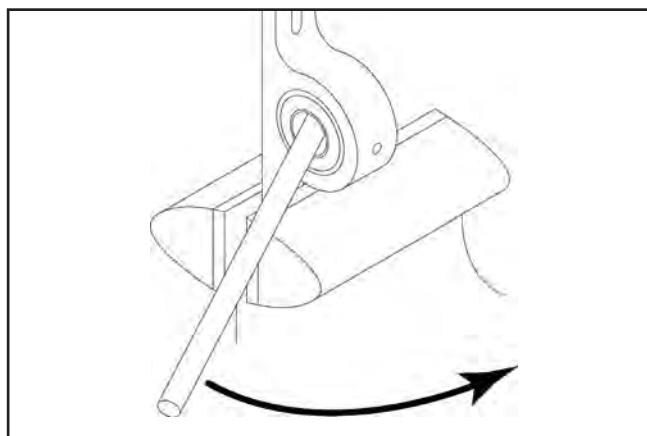

Figure 47. Detaching bearing from block.
2. Remove bearing housing from drum sander and clamp it tightly in a bench vise (see **Figure 47**).
3. Insert screwdriver into center hole of bearing (see **Figure 47**). Lever bearing until it turns perpendicular to the housing. Once bearing is turned 90° to housing, it should slide free with little effort. The housing is designed with notches that allow bearing to be inserted and removed. It is important that you lever bearing so it turns in alignment to those notches.